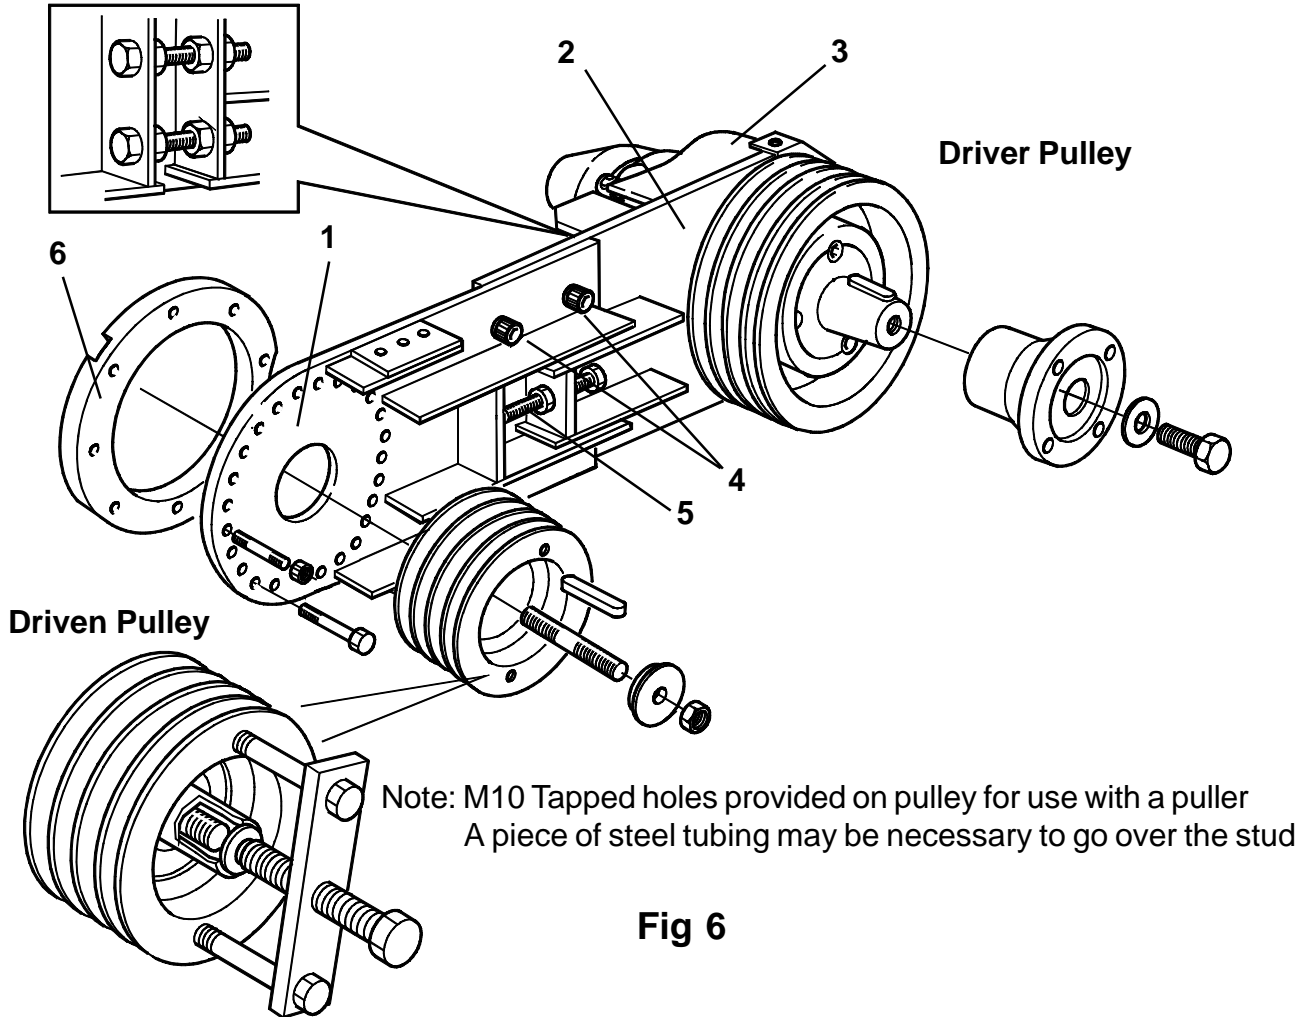

Fig 6
The D9000 unit is designed to be belt driven from the vehicle PTO. A belt drive unit suitable for the installation and capable of transmitting the required power can be ordered via your Drum dealer. Figure 6 shows the components of a typical Drum belt drive unit. The belt drive can be fitted to either of the two shafts on D9000 but the direction of rotation of the D9000 unit must be maintained (**see section 2.4**).
Assemble the inner Arm (1), Outer Arm (2), Outer Bearing Housing (3), and spacer (6) onto the D9000 compressor at the required side and angle of inclination. (Refer Fig 6, Page 10). Note: The driver pulley is factory fitted in a mid position and may need adjustment when checking the alignment of the pulleys.
Alter the bearing housing shaft to a parallel condition by adjusting the two M10 bolts behind the outer arm (inset fig 6) slightly bending the belt arm. Re-tighten to 52.5 Nm.